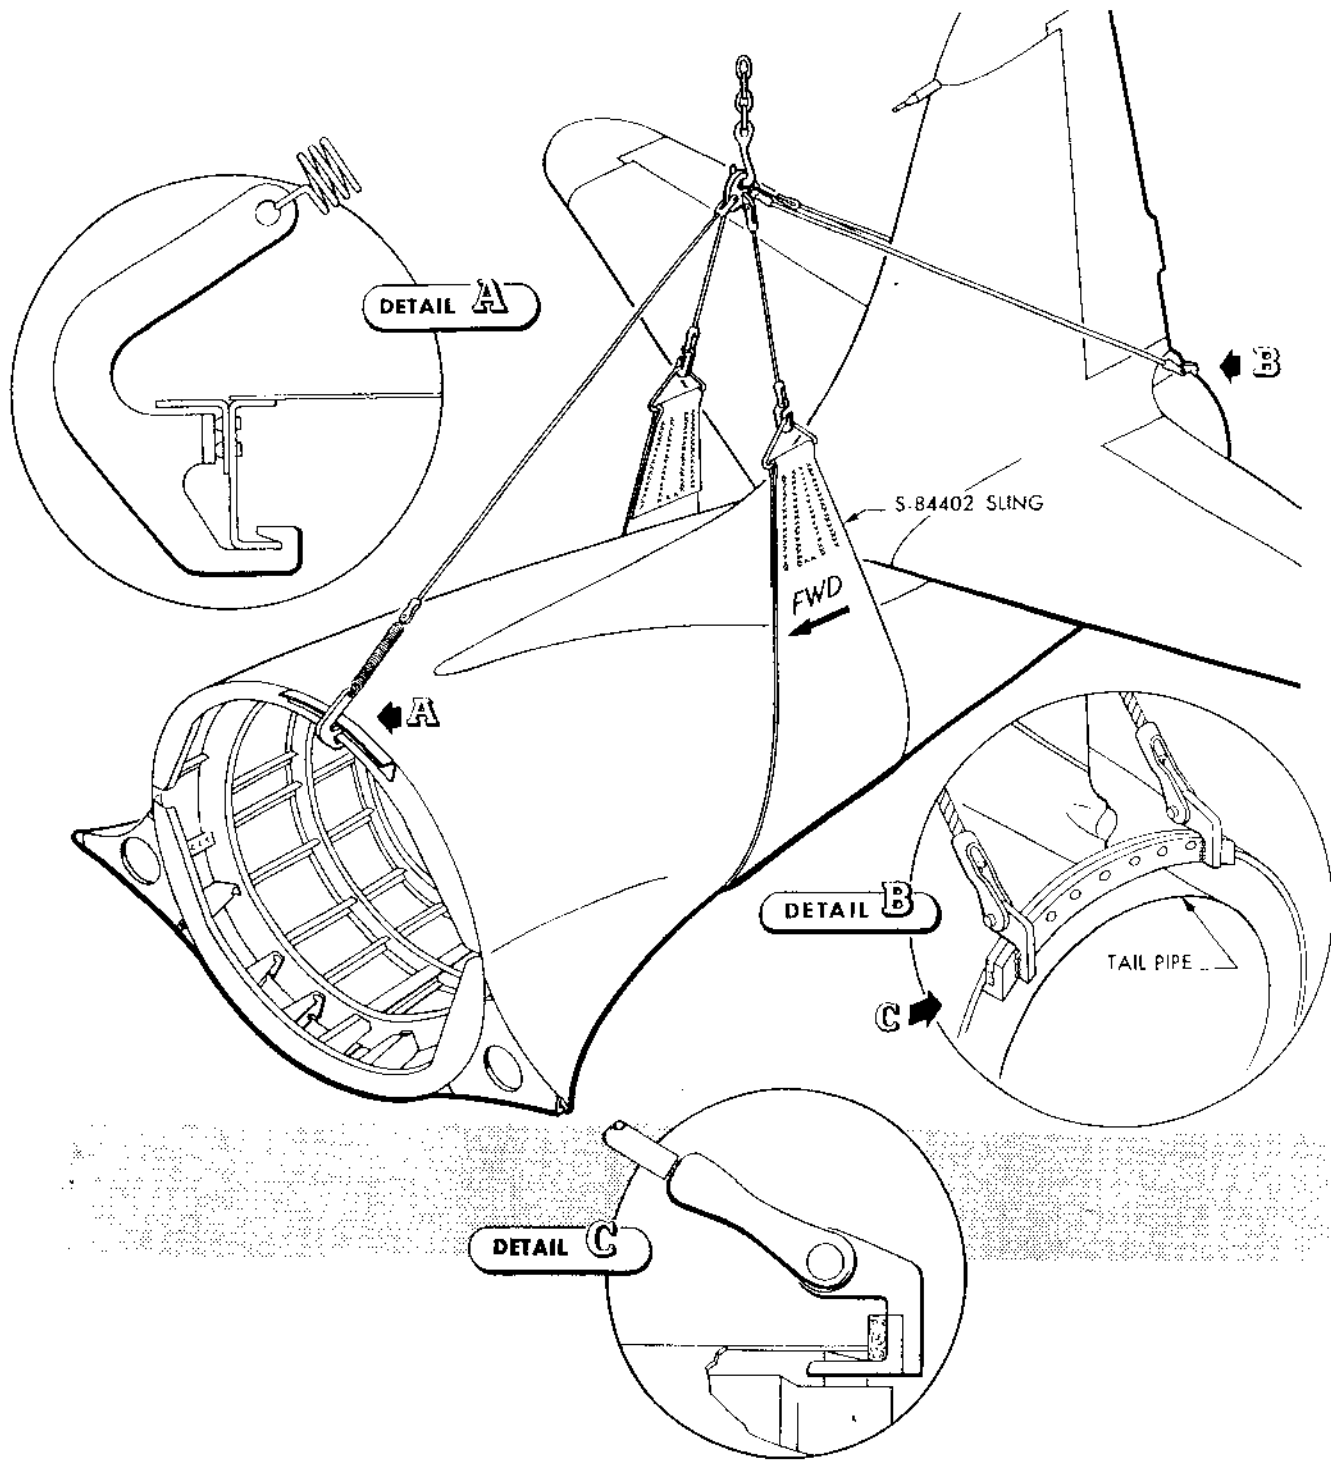

Figure 11 — Hoisting the Fuselage Aft Section
(5) **HOISTING THE FUSELAGE AFT SECTION.** (See figure 11.)—Hoist the fuselage aft section with sling No. S-84402. Place the canvas part of the sling under the fuselage so that the center line of the sling is slightly forward of the leading edge of the horizontal stabilizer, or so the canvas just touches the horizontal stabilizer. Attach the hook of the forward cable to the top of the forward bulkhead. Attach the hook of the aft cable to the top of the tail pipe opening.